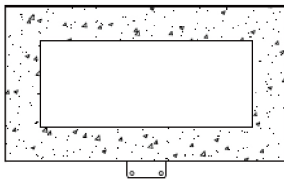

Fig.5
- Mark the two bottom holes position-see Fig.5, remove the heater ensuring that the bottom fixing bracket is rotated up.